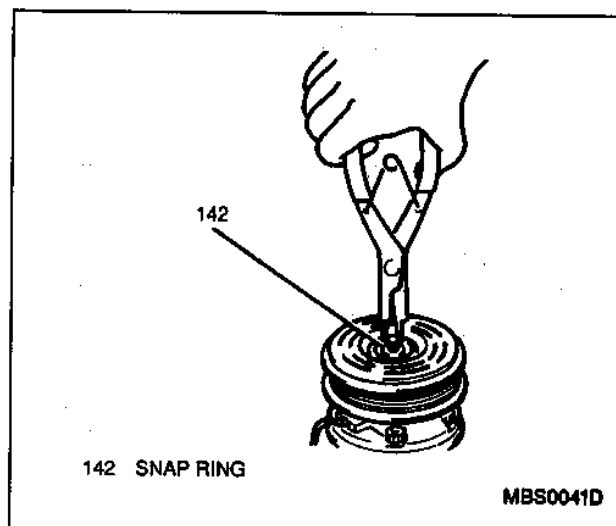

Figure 4—Removing Snap Ring
4. Snap ring and shim, using appropriate snap ring pliers (Figure 4).